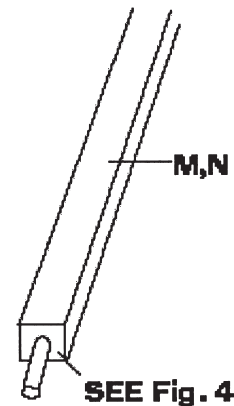

Figure 5A
23. Weld AA flat against end of M. (see Fig. 5A)
25. Weld CC flat against end of N. (see Fig. 5A)